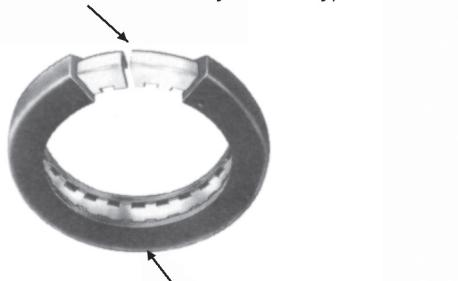

Figure 3
- Self-restrained gasket installation. To simplify installation of a self-restrained gasket, install lower gasket halfway onto the pipe first, leaving the split area in the steel retaining ring free at the top. See Figure 3. Then, stretch the gasket and split area of the retaining ring until they slip over the tube or pipe and into position.
Refer to Figure 3.